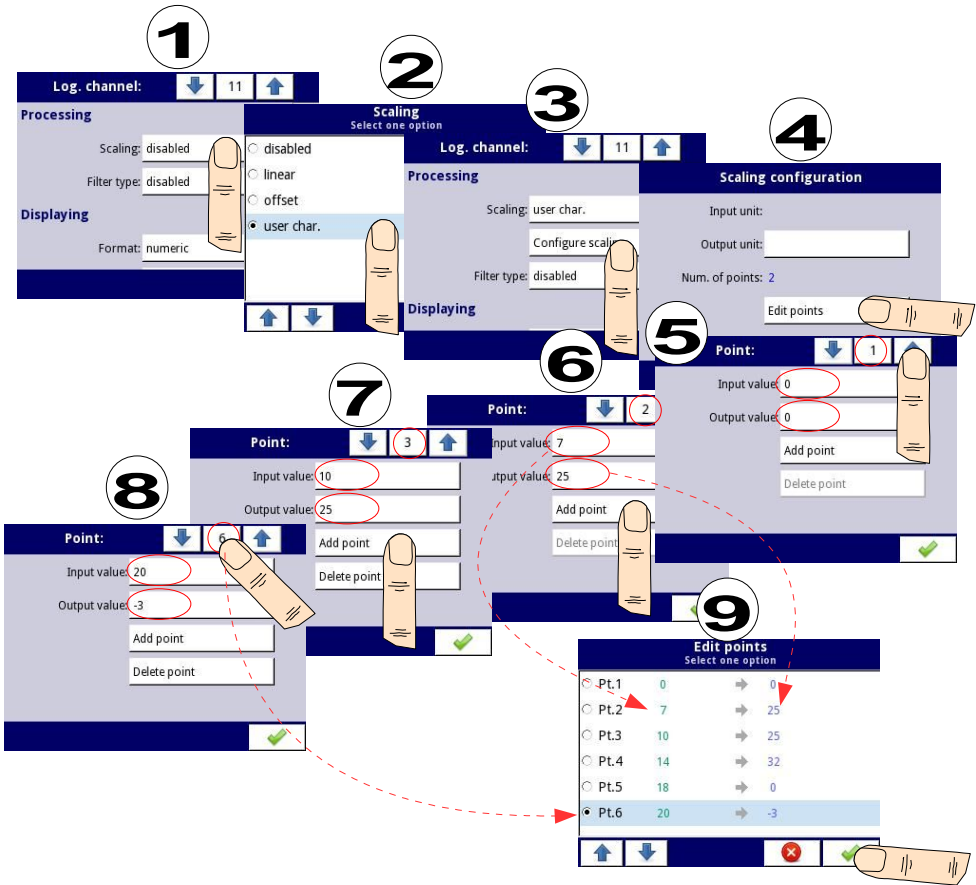

Fig. 7.39. Configuring the user characteristic
1. Press the button next to the **Scaling** label and select the **user characteristic** option (point (1) and (2) in Fig. 7.39).
2. Press the **Configure scaling** button and enter the **Scaling configuration** menu (point (3) in Fig. 7.39).
4. Press the **Edit points** button (point (4) in Fig. 7.39) and go to the **Edit points** menu.
For **Point 1** set input and output value (point (5) in Fig. 7.39).
5. Switch to **Point 2** by using the arrow keys and also set the value of input and output there (point (6) in Fig. 7.39).
8. At the end we check all the points defined by clicking the middle button between the arrows in the upper right corner of the screen (point (8) and (9) in Fig. 7.39).